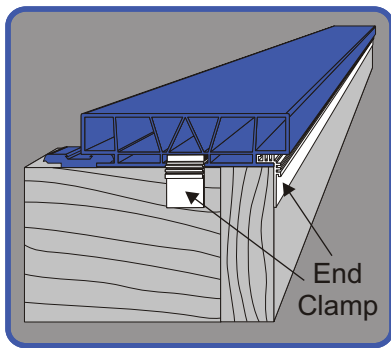

Figure 6
Step 5. Insert end clamp strips lengthwise into the slot along the exposed side of outer deck boards. A lower interior wall may need to be removed with a circular saw if the outer deck board has been ripped to size. Cut additional clamp strips into 1" pieces. Insert a 1" end clamp piece into the lower center chamber of every third deck board end (see Figure 6).